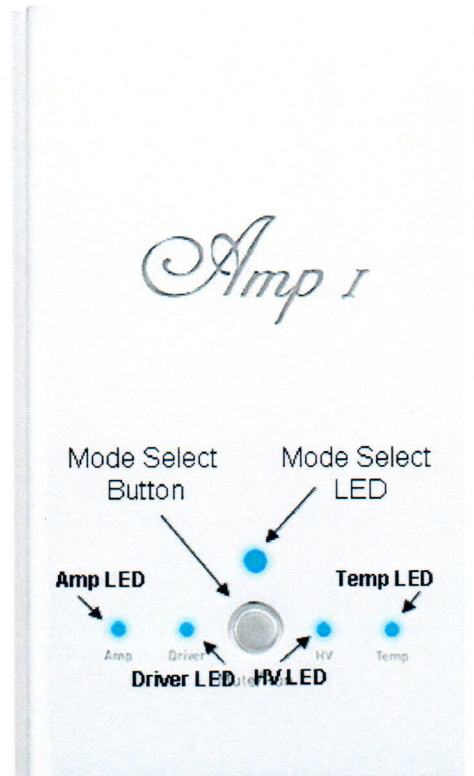

Figure 2 – View of Upper Central Portion of Front Panel
1.3.1.1 The fixed upper section, shown in **Figure 2**, contains:
seconds, the Driver LED will also go from red to blue. The HV LED will remain red and the Mode Select LED above the front panel button will have an orange color. (Refer to **Figure 2** for LED identification.) The *Amp I* is now in the **Standby Mode**. This is a low power consumption mode, but it keeps the amplifier and driver circuits operational and allows them to temperature stabilize. The *Amp I* may be left in this mode at any time and for long periods of time, if desired, with no harm to the unit.